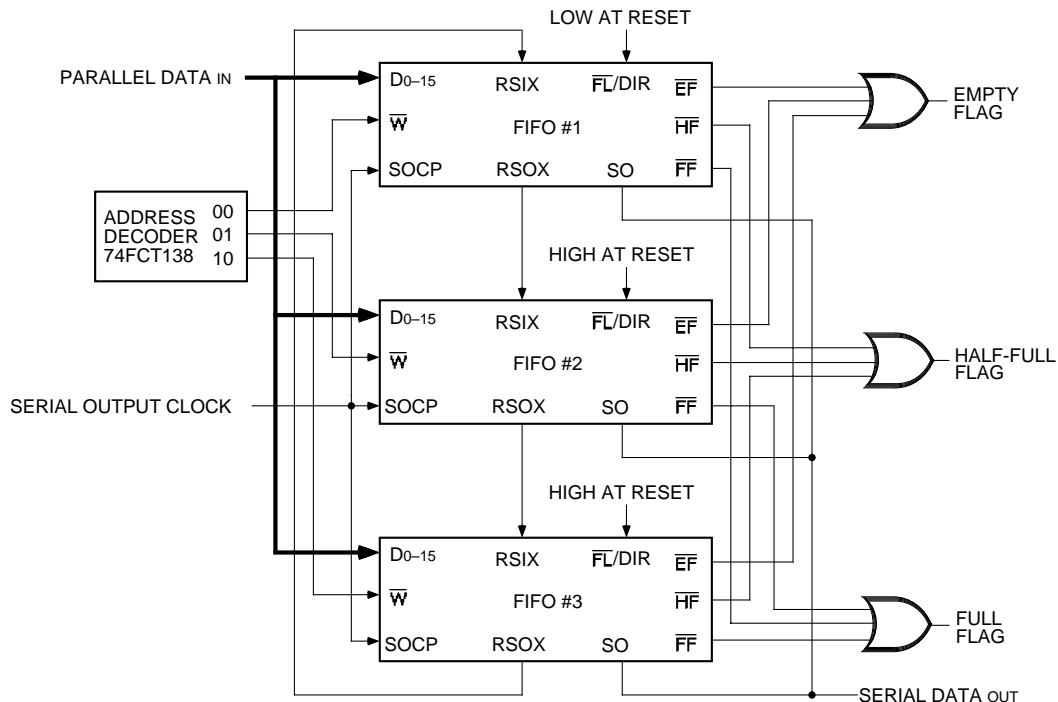

Figure 12. A 3K x 16 Parallel-to-Serial FIFO using the IDT72125
The IDT72105/72115/72125 can easily be adapted to applications requiring greater than 1,024 words. Figure 12 demonstrates Depth Expansion using three IDT72105/72115/72125s and an IDT74FCT138 Address Decoder. Any depth can be attained by adding additional devices. The Address Decoder is necessary to determine which FIFO is being written. A word of data must be written sequentially into each FIFO so that the data will be read in the correct sequence. These devices operate in the Depth Expansion Mode when the following conditions are met:
2. The Read Serial Out Expansion pin (RSOX) of each device must be tied to the Read Serial In Expansion pin (RSIX) of the next device (see Figure 12).